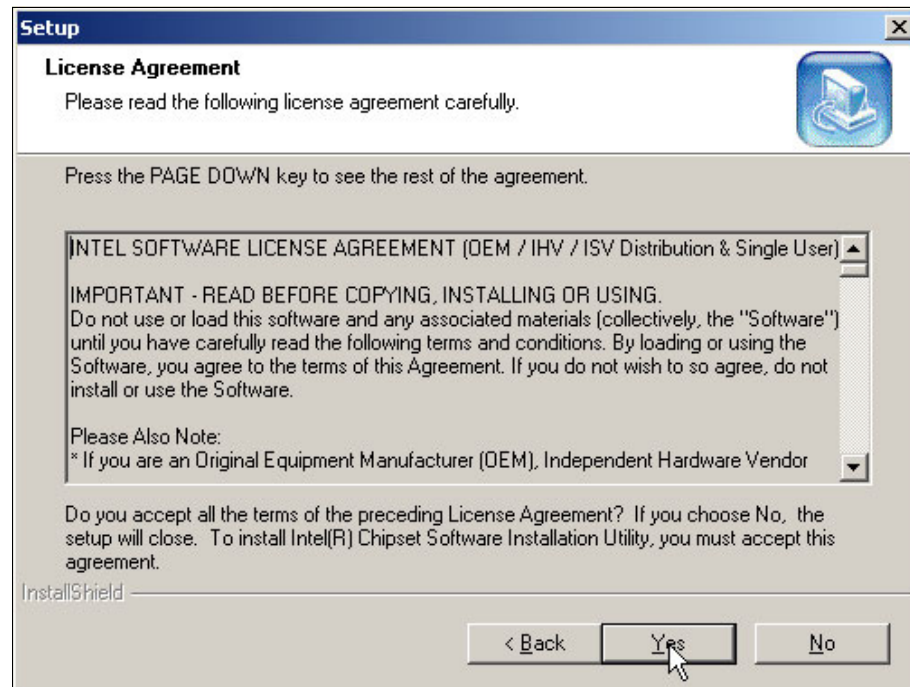

Figure 2-23 Accepting the license agreement
6. Next Accept the license agreement as shown in Figure 2-23.